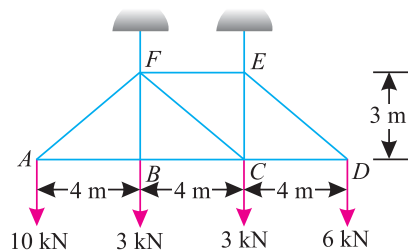

Fig. 14.21.
3. A pin-jointed frame is supported at  $F$  and  $E$  and loaded as shown in Fig. 14.21. Find the forces in all the members of the frame and state in each case, whether the member is in tension or compression.